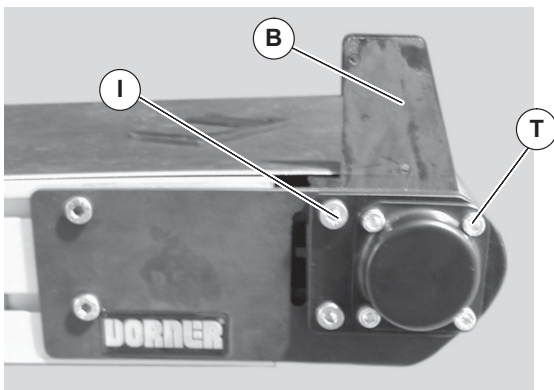

Figure 26
- Replace with new spacer plates (Figure 26, item B). Insert screws (I) and (T) and hand tighten.